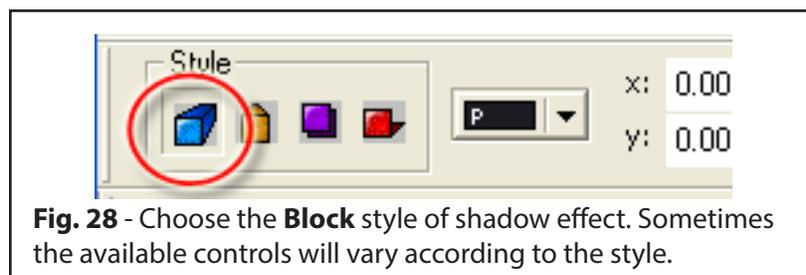

Fig. 28 - Choose the **Block** style of shadow effect. Sometimes the available controls will vary according to the style.
3. For this example, let's use a simple **Block** shadow (Fig. 28).